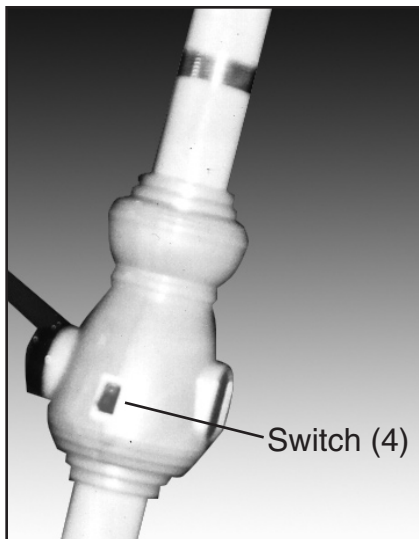

Figure 3
1. Before setting up and using, make sure the Umbrella Light Switch (4) is turned off. (See Figure 3, page 5.
8. When needed, turn the Switch (4) to the ON position to illuminate the Bulbs (3) on the Ribs (9) inside the Umbrella. See Figures 3 and 4.